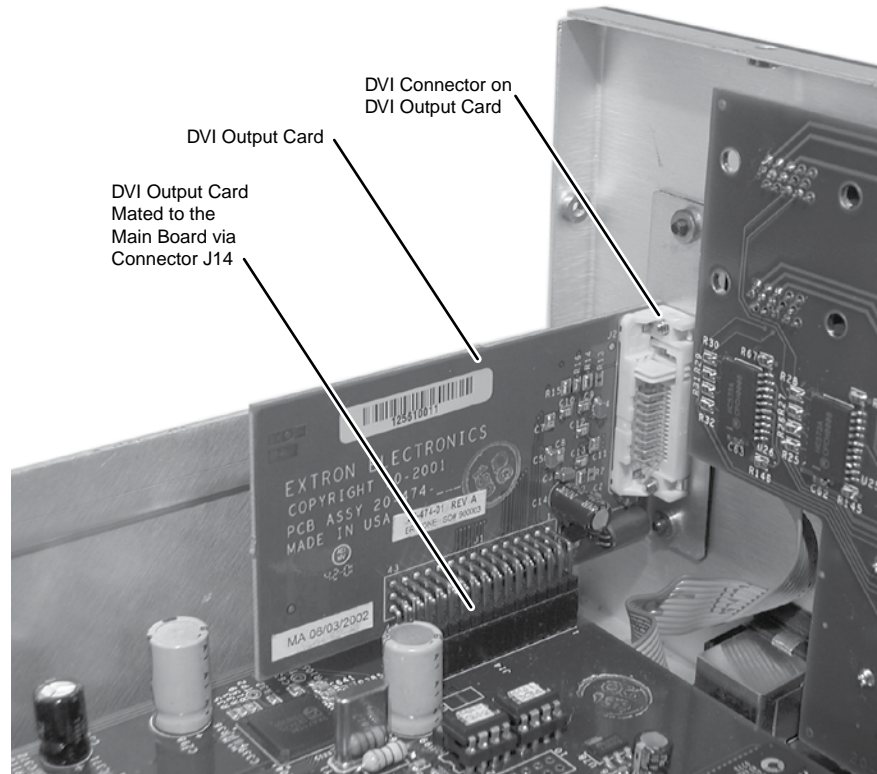

Figure 52. Output DVI Board Installation
5. Carefully mate the 45-pin connector on the DVI output board with connector J14 on the main circuit board (see figure 52).